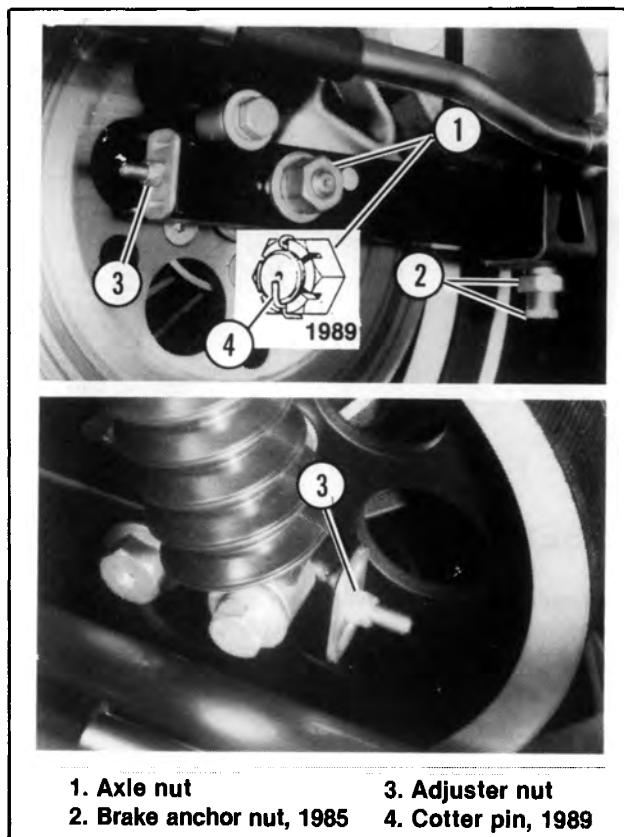

Figure 6-10. Secondary Belt Adjustment — FLT
1. See Figure 6-10. Remove cotter pin (4) if present. Loosen the axle nut (1). Loosen the brake anchor nut (1985 only) (2). Turn adjusting nuts (3) as necessary to move axle and correctly adjust belt tension. Turn each adjuster nut (3) an equal number of turns to keep the wheel aligned. Torque axle nuts to 60-65 ft-lbs or if 1989 model proceed to steps 2 and 3, then check wheel alignment. Check wheel alignment. See WHEEL ALIGNMENT, section 2.
2. On 1989 models tighten the axle nut (1) to 60 ft-lbs torque and check if new cotter pin can be inserted. If required, tighten nut further to align axle hole and nut slot - do not exceed 65 ft-lbs torque.
3. Install cotter pin (4) as shown.